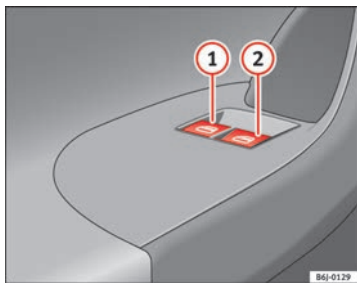

Fig. 50 Detail of the driver door: controls for the front windows.
Buttons ⇒ fig. 50 ① and ② have two positions for opening the windows and two for closing them. This makes it easier to open and close windows to the desired position.